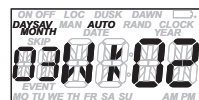

Fig. 5
- After choosing **AUTO** or **MAN**ual, press the **OK** button. The timer's starting date for DST will show in the display in the form of **MONTH** and week (Fig. 5).